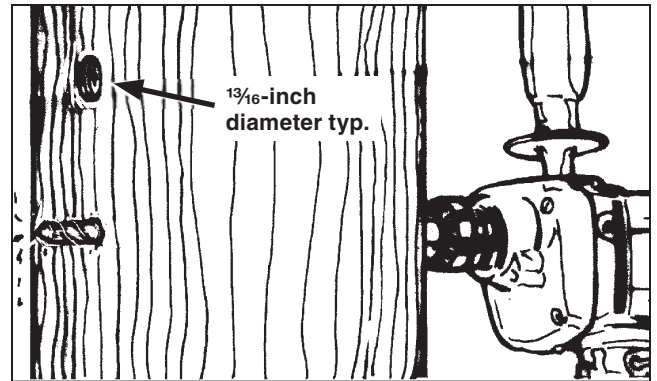

Figure 5. Drill holes for switch-mounting bracket.
**STEP 3.** Drill two  $\frac{13}{16}$ -inch diameter holes through the utility pole as shown and at the desired height for mounting the switch. See Figure 5. Refer to the erection drawing.